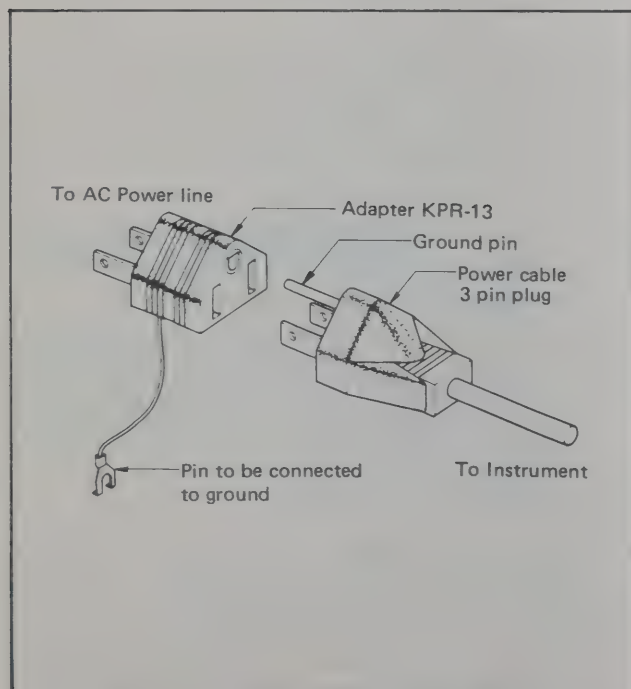

Figure 3.1 Power Cord Plug and Adapter
**3.2.4 GROUNDING.** For optimum performance and safety the third prong of the AC power cord must be grounded. When operating from ungrounded power sources, secondary grounding is mandatory. To accomplish this either utilize an adapter plug (See Figure 3.1) or connect a ground wire from the rear panel ground terminal to the nearest available ground source.